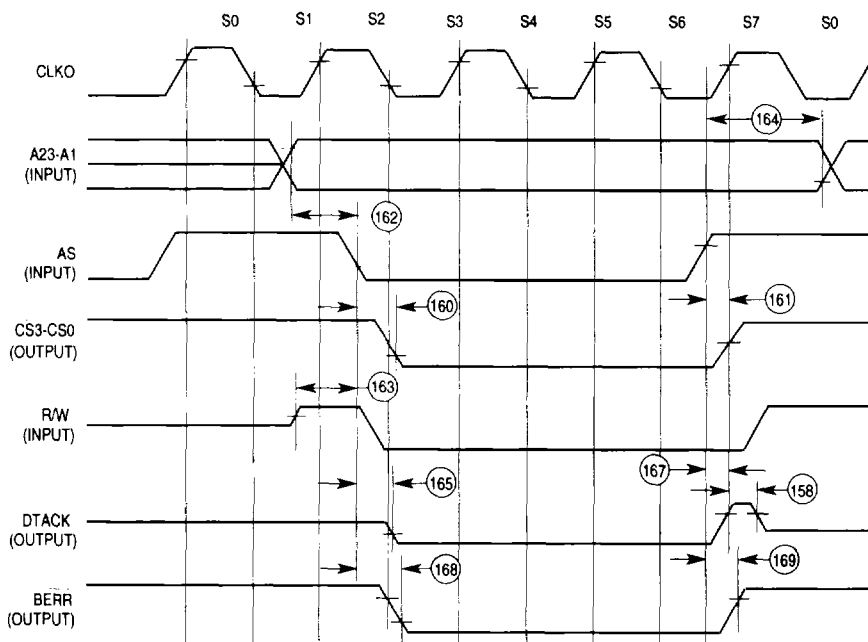

Figure 6-15. External Master Chip-Select Timing Diagram
**6.14 AC ELECTRICAL SPECIFICATIONS—CHIP-SELECT TIMING EXTERNAL MASTER** (see Figure 6-15)